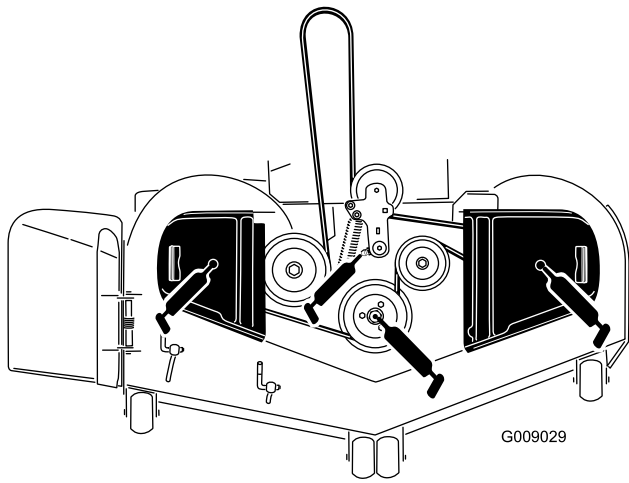

Figure 45
3. Grease the mower deck idler pulley pivot until grease come out the bottom (Figure 45).
4. Grease the 3 spindle bearings until grease comes out the lower seals (Figure 45).
5. Grease the drive belt idler arm (Figure 45).